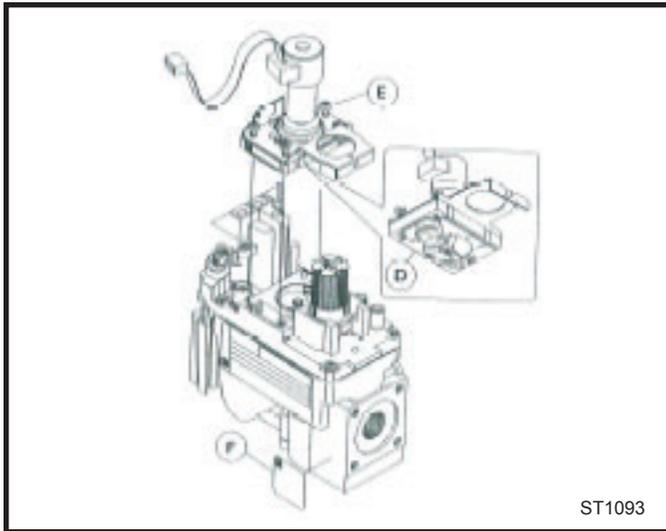

Fig. 75 Remove mounting screws from old pressure regulator assembly. Replace step motor with new conversion step motor.
1. Using the TORX T20 bit remove and discard the three (3) pressure regulator mounting screws from the old pressure regulator assembly. (Fig. 75)
2. Insure the rubber gasket (D) is properly positioned and install the new step motor (E) pressure regulator assembly to the valve using the new screws supplied with the kit. Tighten the screws securely. (Ref. torque = 25 in/lb) (Fig. 75)
3. Install the identification label (F) supplied with the step- per motor to the valve body where it can easily be seen. (Fig. 75)